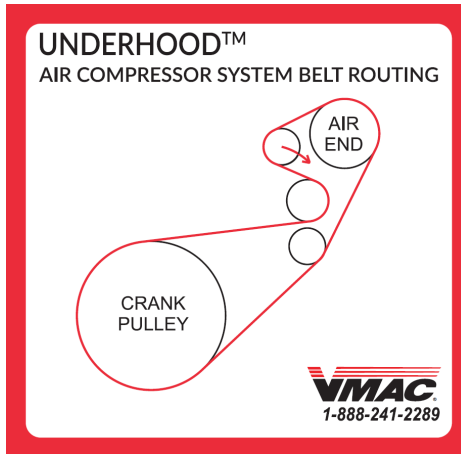

Figure 57 — Belt routing label
- Install the VMAC belt routing diagram in a suitable location under the hood (Figure 57).